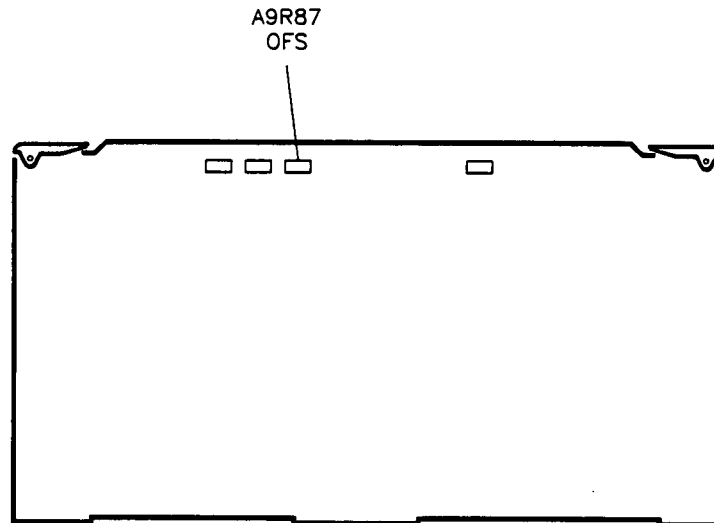

Figure 3-15. Amplifier Detector Offset Adjustment Location
3. Adjust A9R87 (see figure 3-15) to center the "needle" on the display.